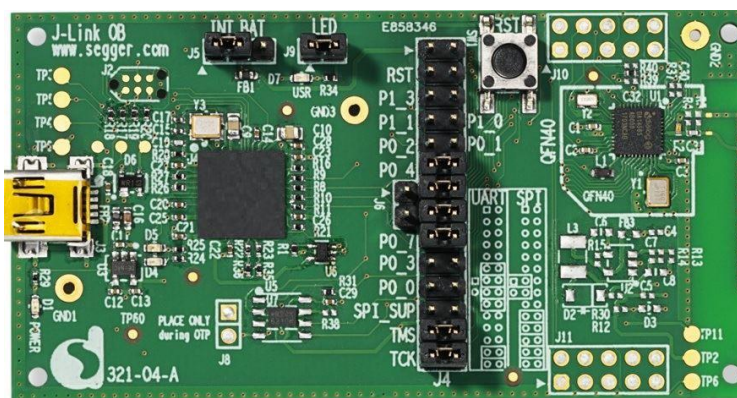

Figure 1: The DA14585/586 Basic Kit
**Figure 1** illustrates the physical layout of the Basic Kit board. The basic Kit board provides the necessary hardware to enable: